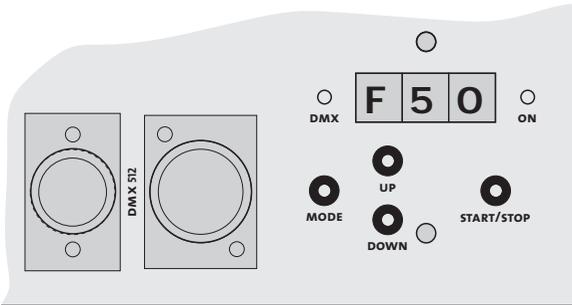

Fig. 2:
- c) Press the Mode button [14] again until an F and two figures appear on the display [17] (see Fig. 2).
- a) Press the Mode button [14] at the control panel until an F and two figures appear on the LED display [17] (see Fig. 2).